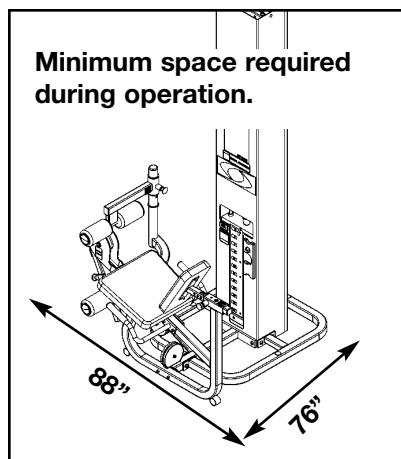

Figure 1
2. Verify you have received the appropriate configuration (see steps 2A - 2C, Figures 1 and 2).
- D.** For Free Standing configurations, allow a minimum amount 88" x 76". See Figure 1.